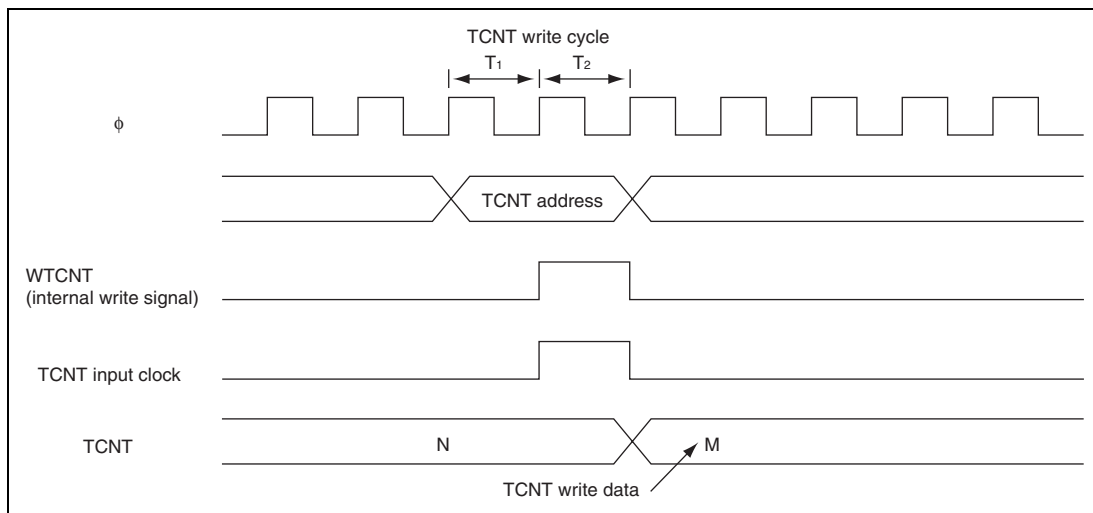

Figure 13.53 Contention between TCNT Write and Increment Operations
2. **Contention between TCNT Write and Increment Operations:** If increment is done in T_2 state of a TCNT write cycle, TCNT writing has priority. Figure 13.53 shows the timing in this case.